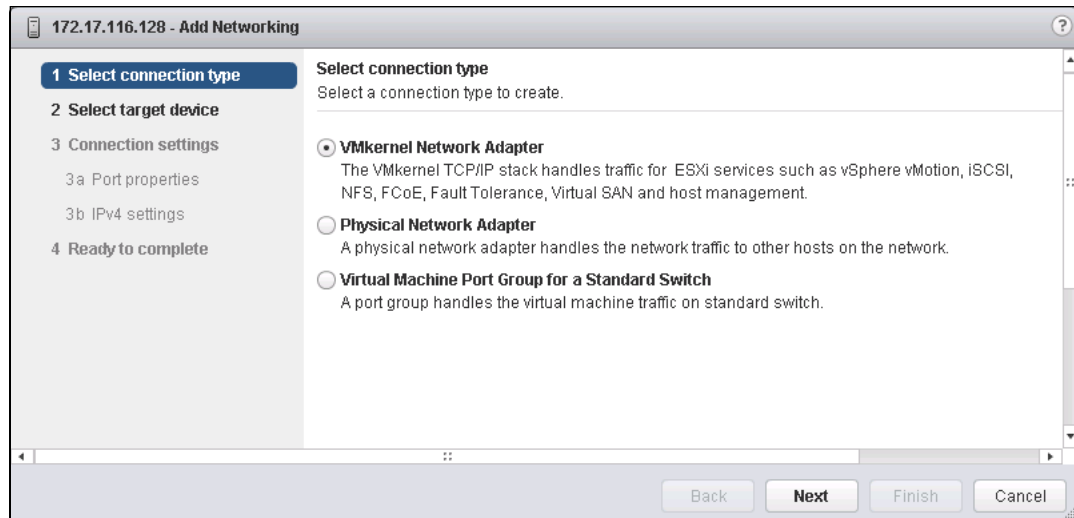

Figure 5-20 VMware: Add Networking wizard
2. Click **Add Networking** to start the Add Networking wizard (Figure 5-20). Select **VMkernel Network Adapter** and click **Next**.